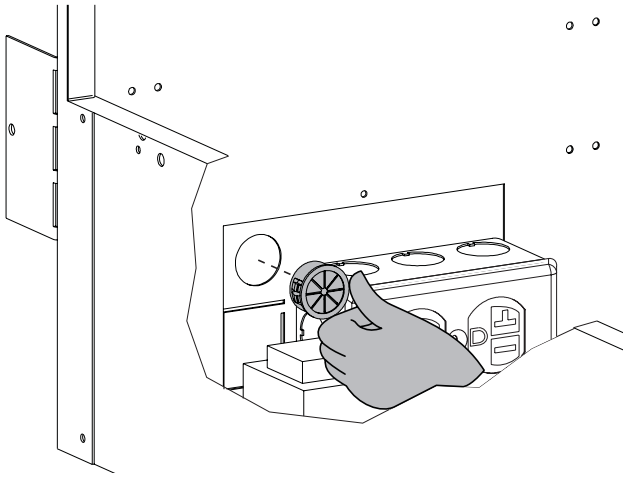
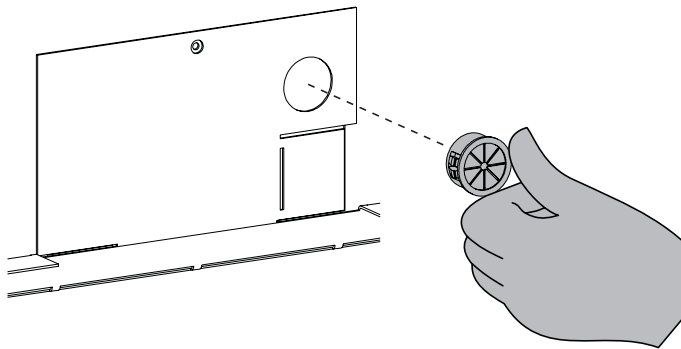

Figure 36
Figure 37
14. Install the provided plastic bushing in the opening where the wires exit the fireplace. See **Figure 36 (left side)**, or **Figure 37 (right side)**.